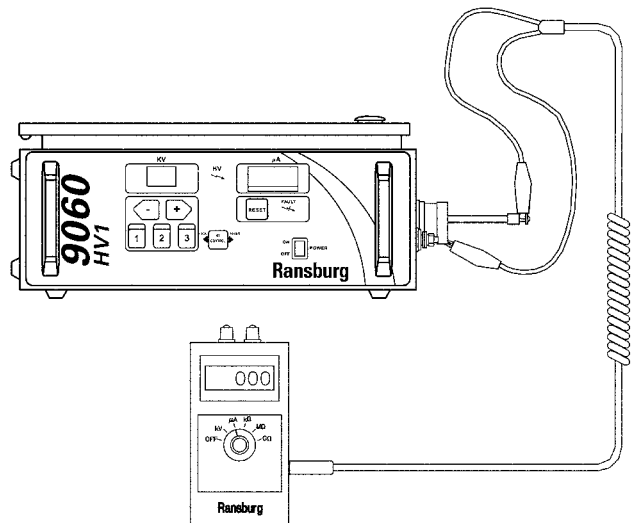

Figure 5: Testing SCI on Power Supplies
1. Set the meter dial to the μA scale (see Figure 5). Plug the probe with two (2) alligator clamp leads into the side of the meter. Ensure the meter reads zero. If it does not read zero, consult the factory for repair of the meter.
1. Set the meter dial to the μA scale (see Figure 5). Plug the probe with two (2) alligator clamp leads into the side of the meter. Check the meter calibration by touching the metallic ends of the two (2) probes together. If the meter reads zero, the meter is in calibration. If it does not read zero, verify the continuity of the probe assembly and re-perform the check. If the meter still does not read zero, consult the factory for repair of the meter.